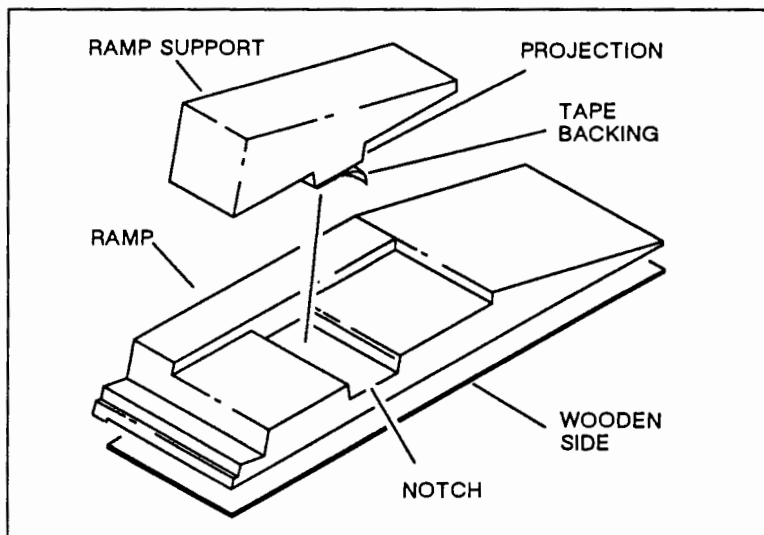

Figure 2-1. Ramp Support Installation
- h. Install a ramp support on each ramp; so that the ramp support projection fits into the notch in the ramp. See Figure 2-1.